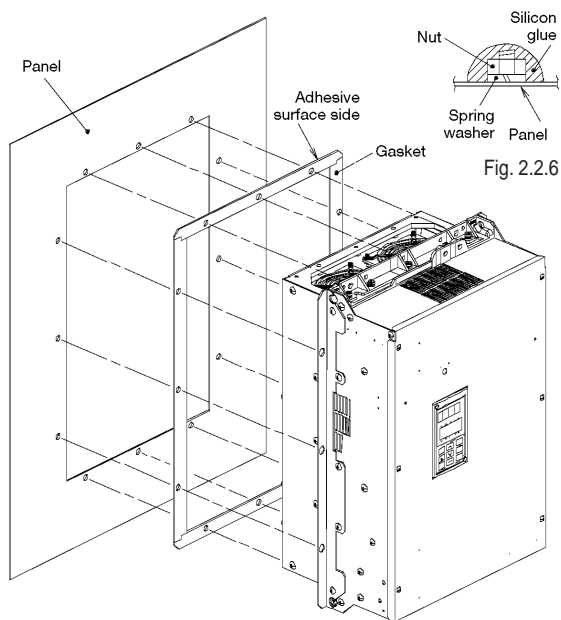

Fig.2.2.5
2. Install the drive and tighten the mounting bolt and nut. (Tightening torque: 119 lbs-inch [M8], 425 lbs-inch [M12] ). Mounting hardware to be supplied by the customer. (Refer to Fig. 2.2.5)